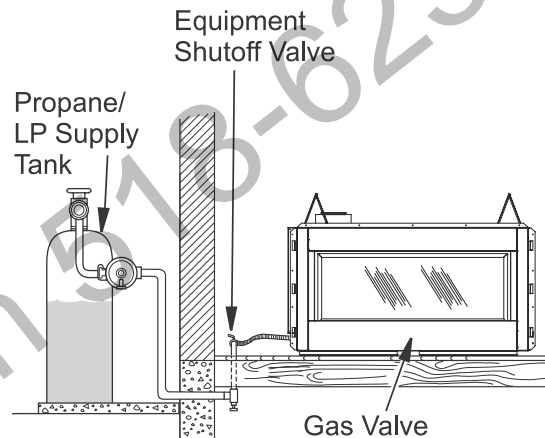
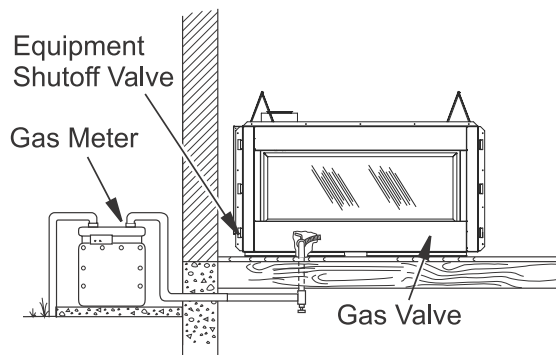

Figure 24 - Checking Gas Joints for Propane/LP Gas Fireplace
Figure 25 - Checking Gas Joints for Natural Gas Fireplace
3. Check all joints from propane/LP supply tank or gas meter to equipment shutoff valve (see Figure 24 or Figure 25). Apply noncorrosive leak detection fluid to all joints. Bubbles forming show a leak.
4. Check all joints from equipment shutoff valve to gas valve (see Figure 24 or Figure 25, page 21). Apply noncorrosive leak detection fluid to all joints. Bubbles forming show a leak. Correct all leaks at once.